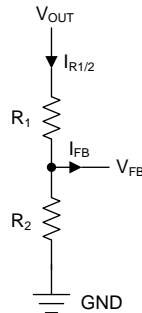

Figure 2. Feedback Circuit
- $R1, R2$ = resistive divider values, see Figure 2.
- (13)